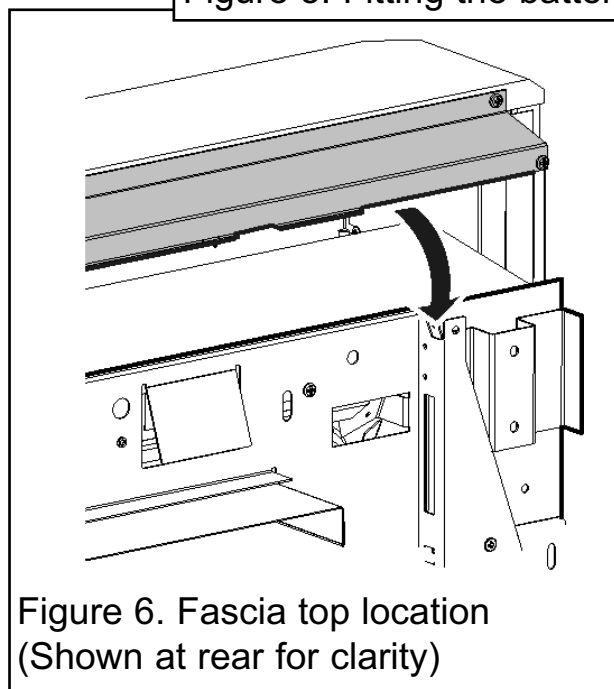

Figure 6. Fascia top location
6. Place the fascia over the engine. Make sure that the top rear of the fascia locates fully into the 'U' shaped notch of the engine back panel (See figure 6).